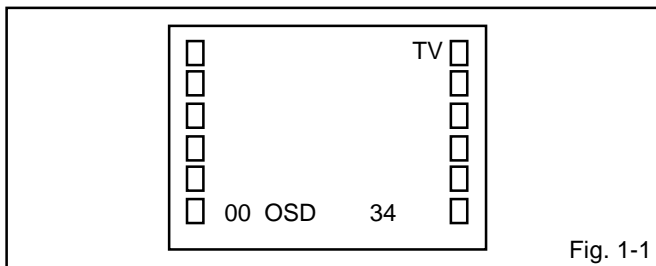

Fig. 1-1
Press the VOL. DOWN button on the set and the Channel button **(9)** on the remote control for more than 1 second to appear the adjustment mode on the screen as shown in **Fig. 1-1**.
2. Activate the adjustment mode display of **Fig. 1-1** and press the channel button **(01)** on the remote control to select "CUT OFF".
4. Activate the adjustment mode display of **Fig. 1-1** and press the channel button **(12)** on the remote control to select "R. BIAS".
3. Activate the adjustment mode display of **Fig. 1-1** and press the channel button **(03)** on the remote control to select "H. PHAS".
3. Activate the adjustment mode display of **Fig. 1-1** and press the channel button **(06)** on the remote control to select "H. SIZE".
3. Activate the adjustment mode display of **Fig. 1-1** and press the channel button **(07)** on the remote control to select "V. SIZE".
3. Activate the adjustment mode display of **Fig. 1-1** and press the channel button **(08)** on the remote control to select "V. LIN".
3. Activate the adjustment mode display of **Fig. 1-1** and press the channel button **(33)** on the remote control to select "LEVEL".
3. Activate the adjustment mode display of **Fig. 1-1** and press the channel button **(30)** on the remote control to select "PARABOLA".
3. Activate the adjustment mode display of **Fig. 1-1** and press the channel button **(32)** on the remote control to select "TRAPEZIUM".
3. Activate the adjustment mode display of **Fig. 1-1** and press the channel button **(34)** on the remote control to select "SEP 1".